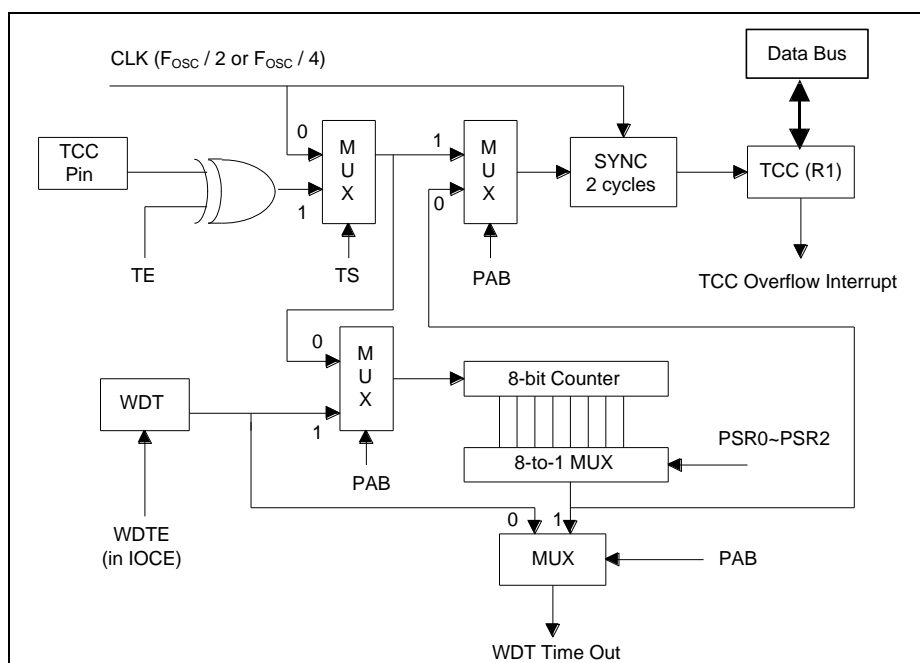

Figure 5-3 TCC and WDT Block Diagram
An 8-bit counter is provided as prescaler for the TCC or WDT. The prescaler is only available for either TCC or WDT at a time. The PAB bit of the CONT register is used to determine the prescaler assignment. The PSR0 ~ PSR2 bits determine the ratio. The prescaler is cleared each time an instruction is written to TCC under TCC mode. The WDT and prescaler, when assigned to WDT mode, are cleared by the “WDTC” or “SLEP” instructions. Figure 5-3 below depicts the circuit diagram of TCC/WDT.
- R1 (TCC) is an 8-bit timer/counter. The TCC clock source can be an internal or external clock input (edge selectable from TCC pin). If the TCC signal source is from an internal clock, TCC will be incremented by 1 at every instruction cycle (without prescaler). Refer to the following figure (Figure 5-3) to determine whether $CLK = F_{OSC}/2$ or $CLK = F_{OSC}/4$ is used. It will depend on the status of the Code Option bit CLK. $CLK = F_{OSC}/2$ is used if CLK bit is “0”, and $CLK = F_{OSC}/4$ is used if CLK bit is “1”. If the TCC signal source is from an external clock input, TCC is incremented by 1 at every falling edge or rising edge of the TCC pin.